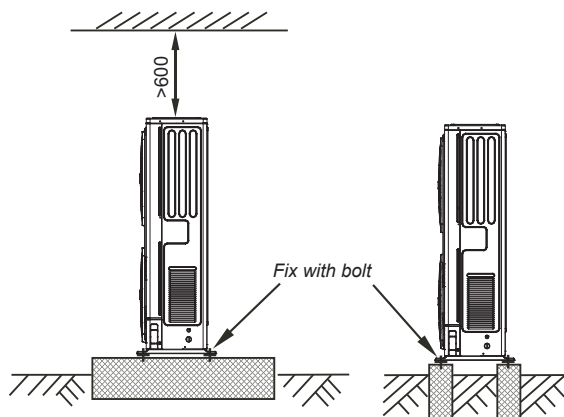

Fig.3-5
- Make concrete foundation according to the specifications of the outdoor units. (refer to Fig.3-5)
- Fasten the feet of this unit with bolts firmly to prevent it from collapsing in case of earthquake or strong wind. (refer to Fig.3-5)